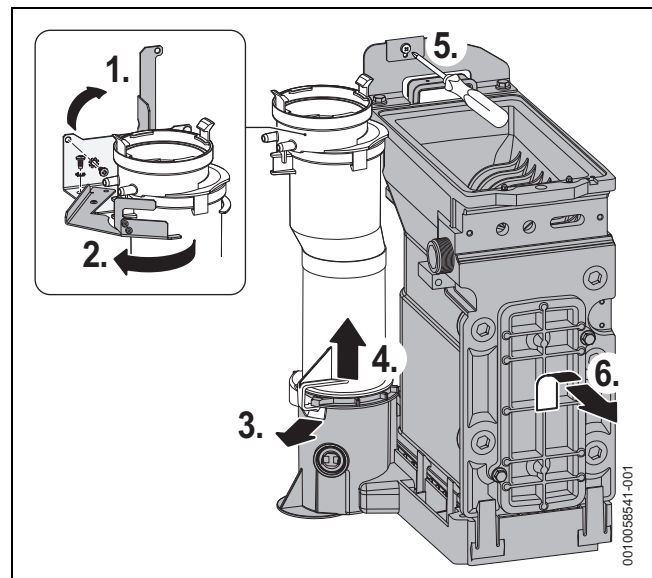

Fig. 108 Removing the heat exchanger assembly
Refer to figure 108.
- ▶ The exhaust pipe will have to be removed if the thermostat falls into the housing, refer to figure 108, removing the exhaust pipe from the condensate catch pan (sump).